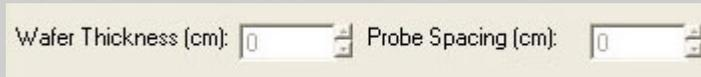

FIGURE 6
**Bulk Resistivity for Wafers** – this can be used where the bulk resistivity of a thin material is required. It outputs the current setting and voltage measurement, along with the calculated Bulk Resistivity. For this type of measurement it is necessary to input the sample thickness in *centimetres* (on the left in Figure 6) I.e. for a typical wafer thickness of 600 microns, the thickness is 0.06cm.
**Bulk Resistivity** – this can be used where the bulk resistivity of a large piece of material is required (typically samples > 5x probe spacing). It outputs the current setting and voltage measurement, along with the calculated Bulk Resistivity. For this type of measurement it is necessary to input the probe spacing in *centimetres* (on the right in Figure 6) I.e. for a typical probes spacing of 1.00mm, the spacing is 0.1cm.